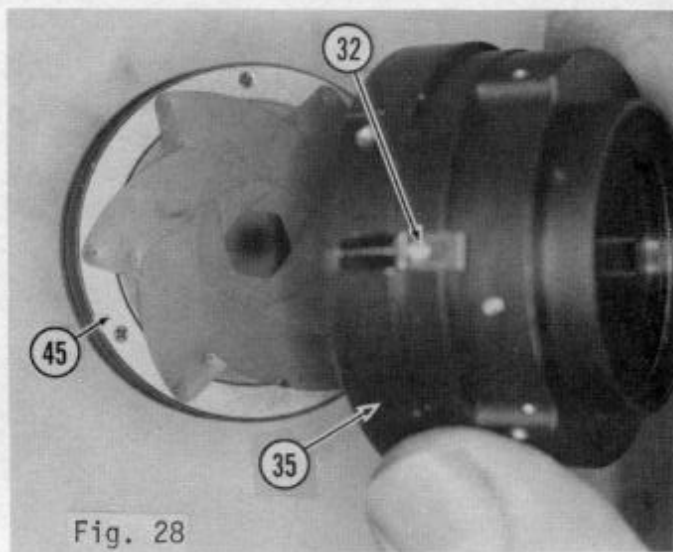

Fig. 28
- 4.2.3 Install Prime Lens Barrel (35) over Diaphragm Housing (45), seating it fully down. Rotational position is unimportant. (Fig. 28)
- 4.2.11 Tighten two screws (32). (Fig. 28)